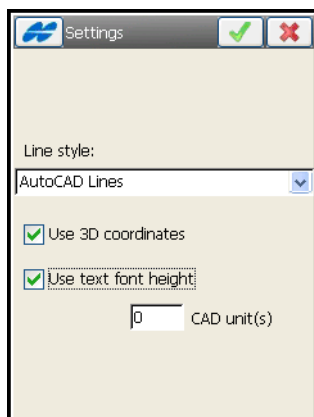

Figure 5-39. Settings for Lines
- You may want to set the height of text fonts to show the text in AutoCAD. For this, check mark the *Use text font height* box to open a field to manually/automatically enter the desired value in CAD units. Then tap the ok  button (Figure 5-39).